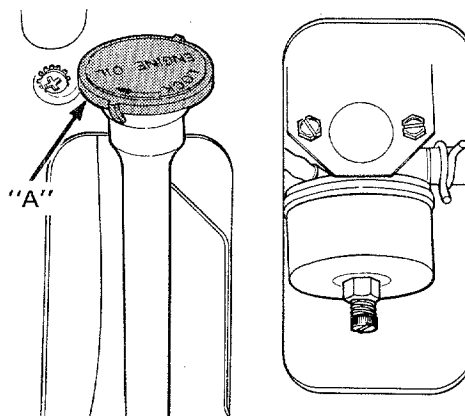

Fig. 8
Before operating, fill the crankcase to "FULL" mark on dipstick (A), Figure 8, using proper grade and amount of a quality engine oil.